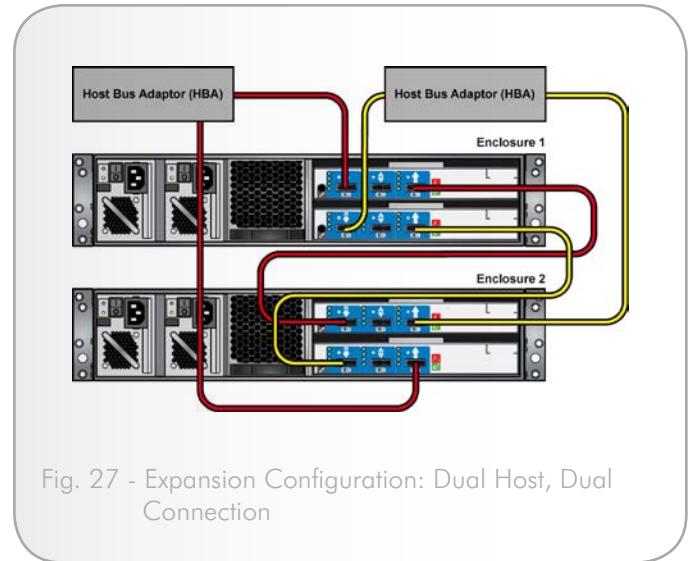

Fig. 27 - Expansion Configuration: Dual Host, Dual Connection
- ◆ Dual Host, Dual Connection, shown in Fig. 27